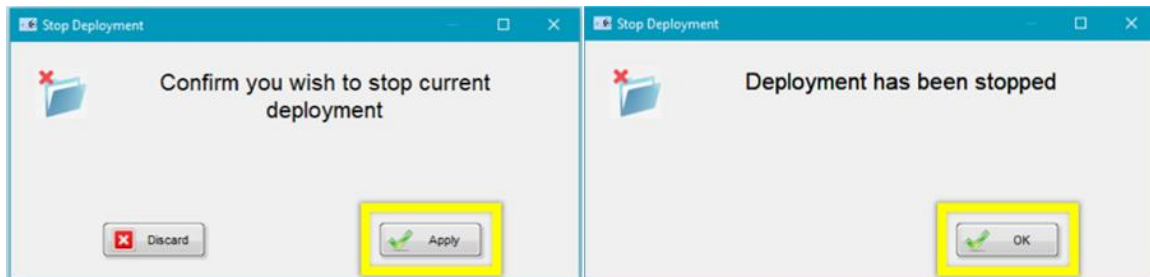

Figure 11. Confirm and Acknowledge Deployment is being Stopped
2. A **Stop Deployment** dialogue box will appear asking for confirmation and acknowledgement to stop data collection (**Figure 11**). Click **“Apply”** to confirm and **“OK”** to acknowledge and proceed to the next section.